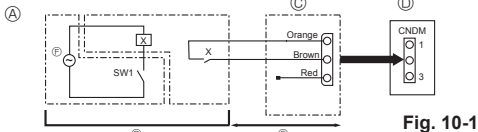

Fig. 10-1
10.1. Low noise mode (on-site modification) (Fig. 10-1)